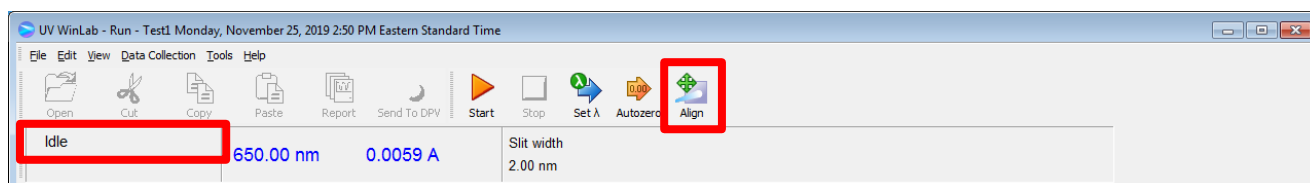

Figure 4: Align icon and tool status.
- Ensure proper beam alignment by using the *Align* icon in the top menu bar, shown in Figure 4.
- Ensure proper beam alignment by using the *Align* icon in the top menu bar (Figure 4).